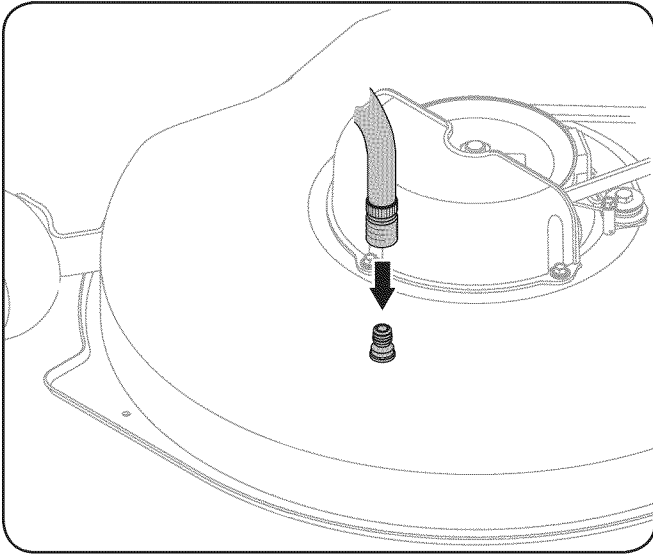

Figure 13
4. Attach the hose coupler to the water port on the deck's surface. See Figure 13.